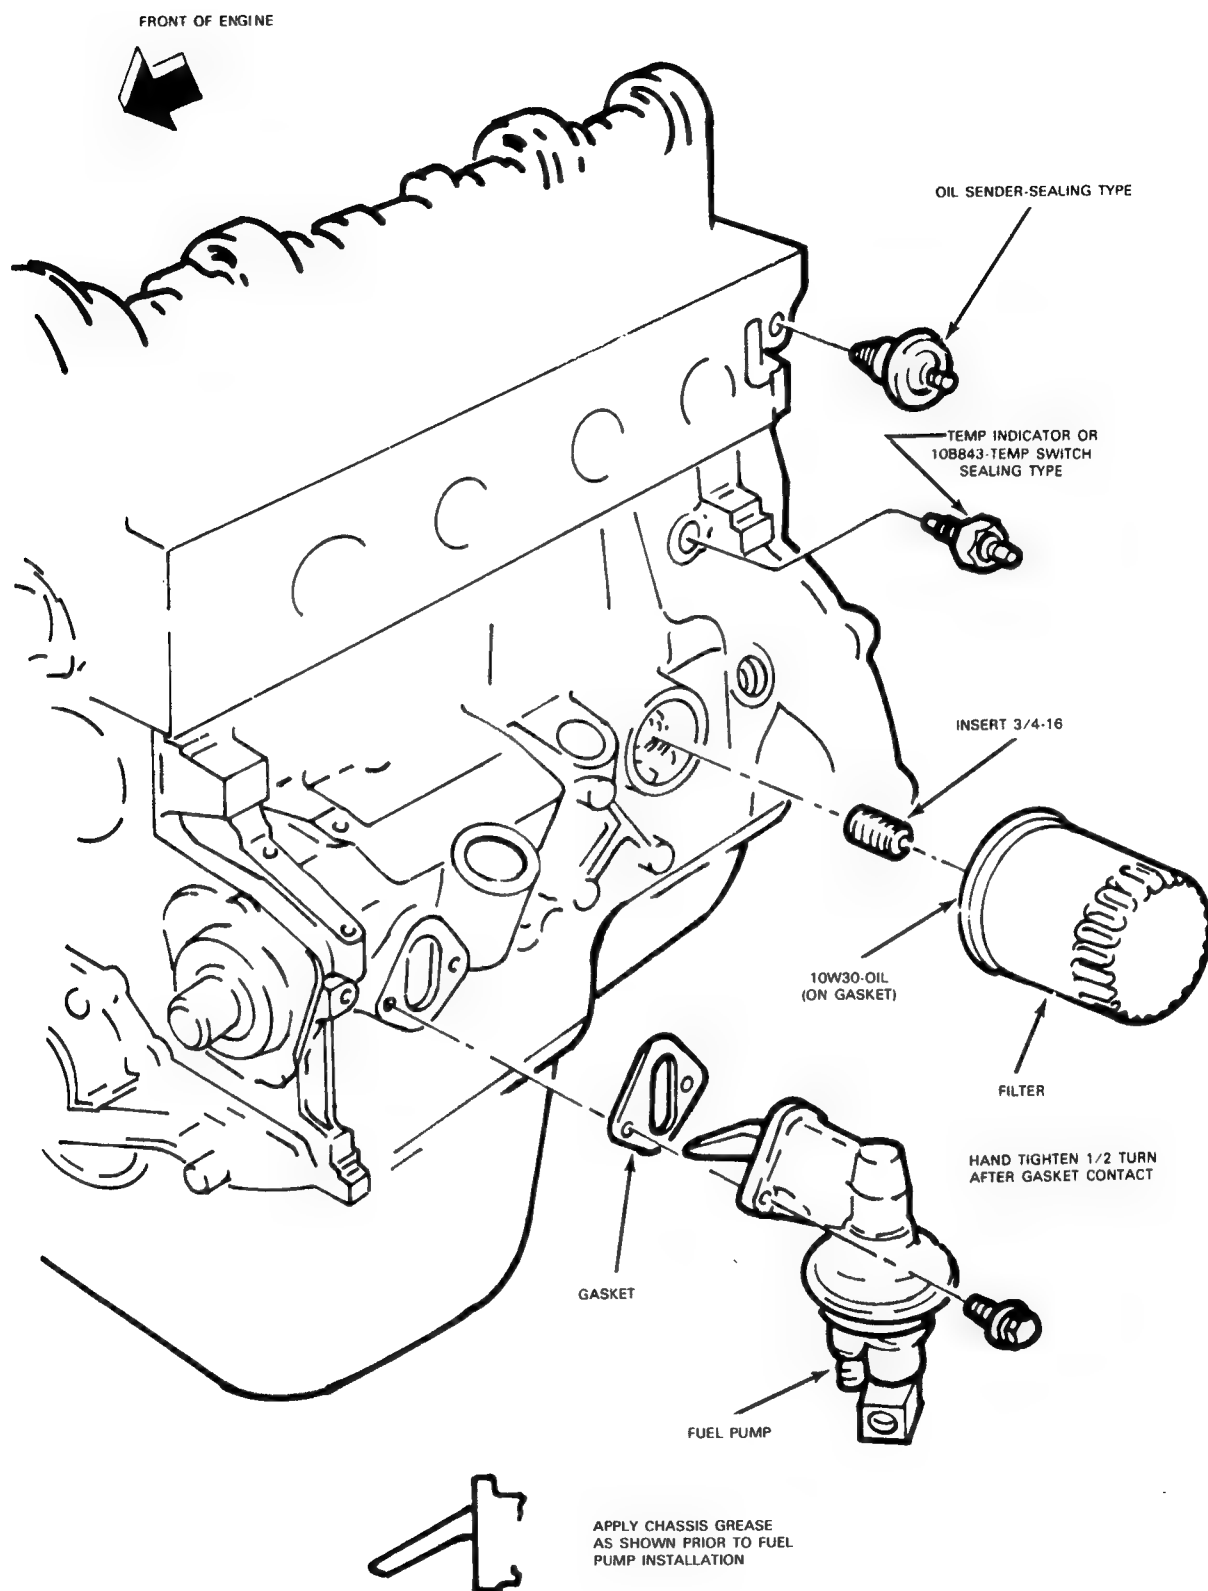

FIG. 51 Oil Filter, Fuel Pump and Sending Units
2. Inspect pilot bearing and starter gear teeth for wear. Fig.51.